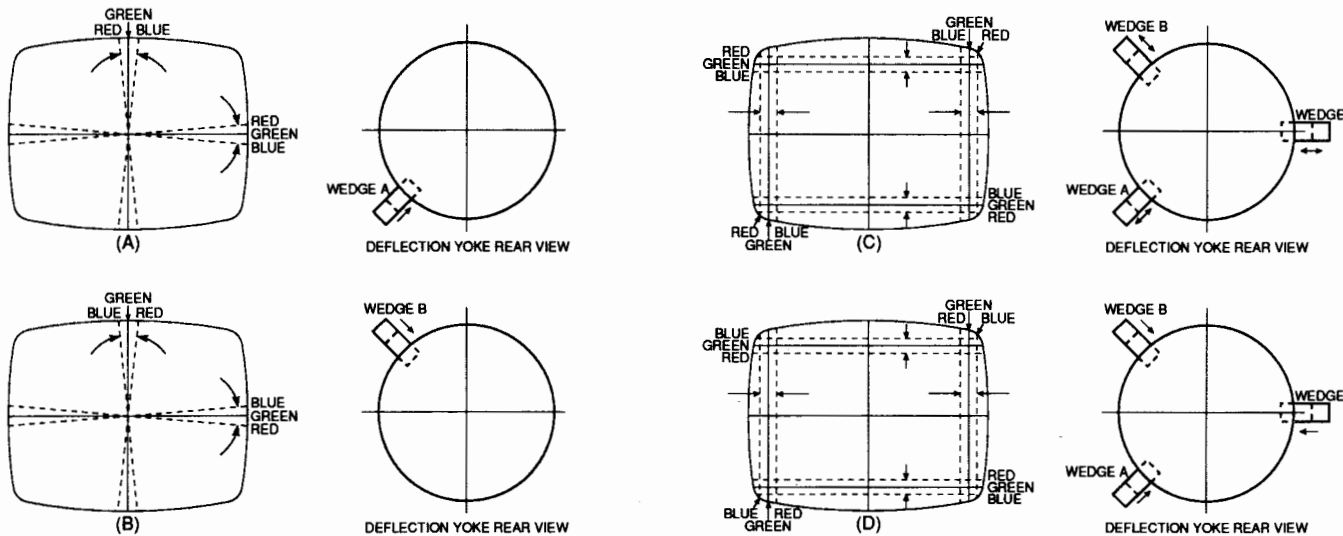

Fig. 10
DYNAMIC CONVERGENCE ADJUSTMENT (Refer to Fig. 10)
3. For the misconvergence shown in Fig. 10(A), tilt the deflection yoke down and insert wedge A between deflection yoke and CRT.
4. For the misconvergence shown in Fig. 10(B), tilt the deflection yoke up and insert wedge B between deflection yoke and CRT.
5. For the misconvergence shown in Fig. 10(C), tilt left side of the deflection yoke and slightly insert wedge C between deflection yoke and CRT. Then, deeply insert wedges A and B between deflection yoke and CRT.
6. For the misconvergence shown in Fig. 10(D), tilt right side of the deflection yoke and deeply insert wedge C between deflection yoke and CRT. Then, slightly insert and/or extract wedges A and B between deflection yoke and CRT.